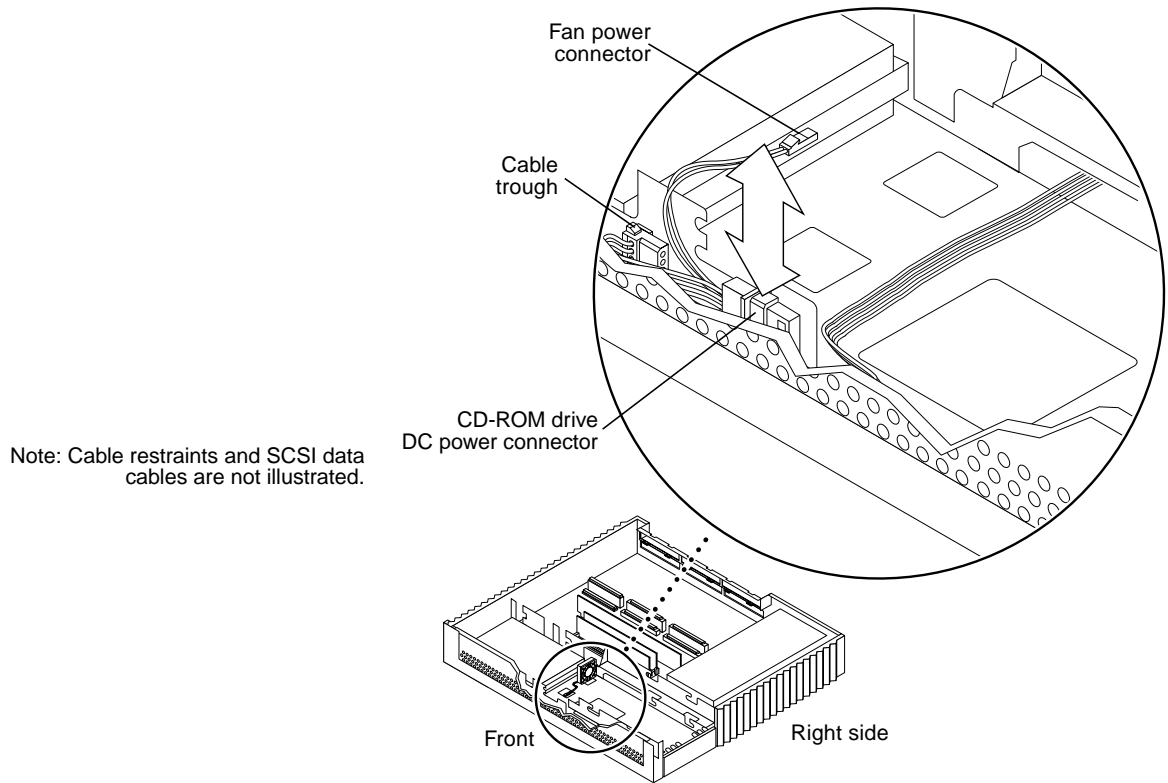

FIGURE 8-20 Lifting Fan DC Cable from the Cable Trough
- 5. Lift the excess fan DC cable from the cable trough along the front of the chassis; remove the fan DC power harness (FIGURE 8-20).**